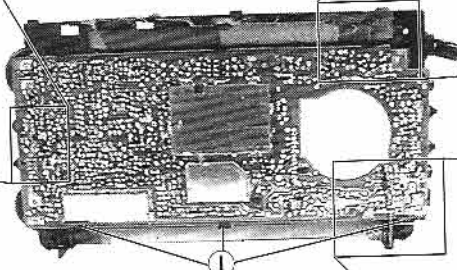

Fig.11
- 3 Rastnasen (I) (Fig.11) austrasten.
- Disengage 2 latches (I) (Fig.11).